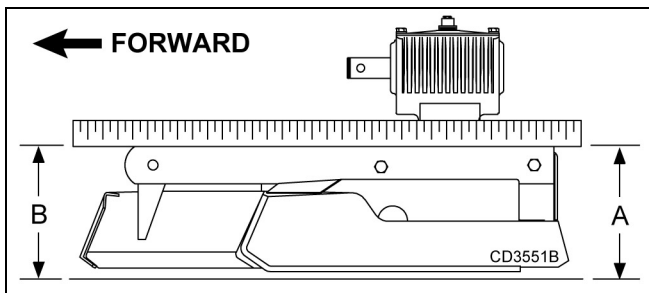

Figure 4. Cutting Height Adjustment
**NOTE:** Cutting height is the distance between the blade and the ground. The blades are 7-3/4" below the top of the deck rail on the GM1060 and 8-3/4" below the top of the deck rail on the GM1072. To check cutting height, place a straight edge along top edge of deck rail as shown in Figure 4.
**NOTE:** Remember, measurement at location A, Figure 4, should not be less than location B and should not be over 1/2" greater than location B.